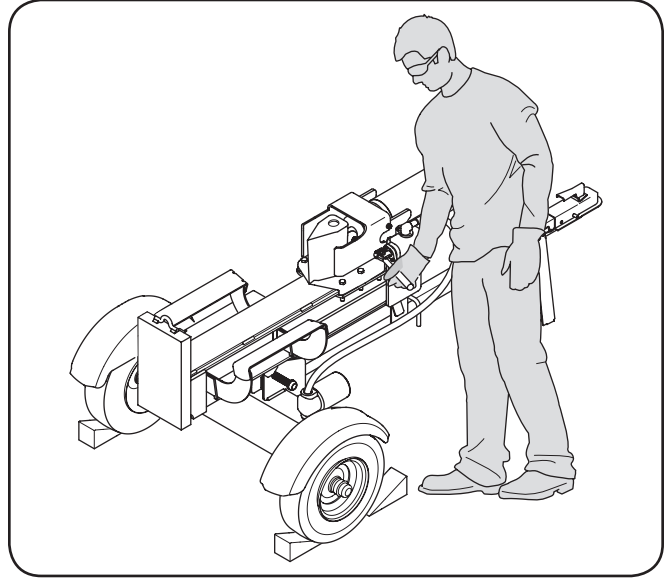

Figure 5-4
- c. Stand behind the reservoir tank to operate the control handle and to stabilize the log. See Fig. 5-4.